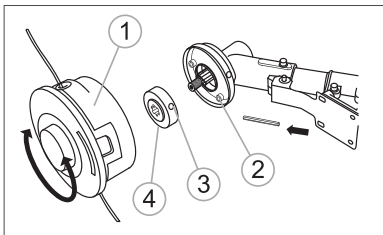

fig. 6
- Holding the rod in the holes 2 and 3 cups of the gearbox and the flange washer 4, spin the spool with the line counterclockwise until it stops (fig. 6).